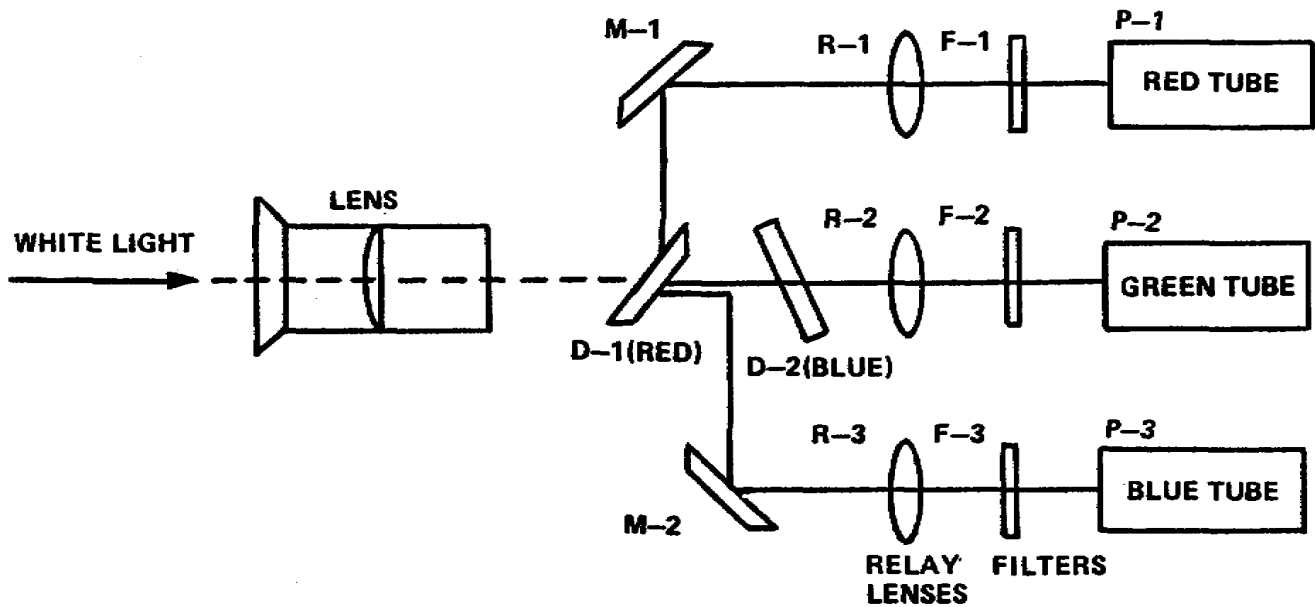

Figure 1-6. Dichroic mirror system
(1) Dichroic mirror system. In the dichroic mirror system, the light that comes through the lens is separated by three dichroic (light separating) mirrors into the three primary light colors of red, green, and blue, and directed by other mirrors and lenses into the three camera pickup tubes (fig 1-6).